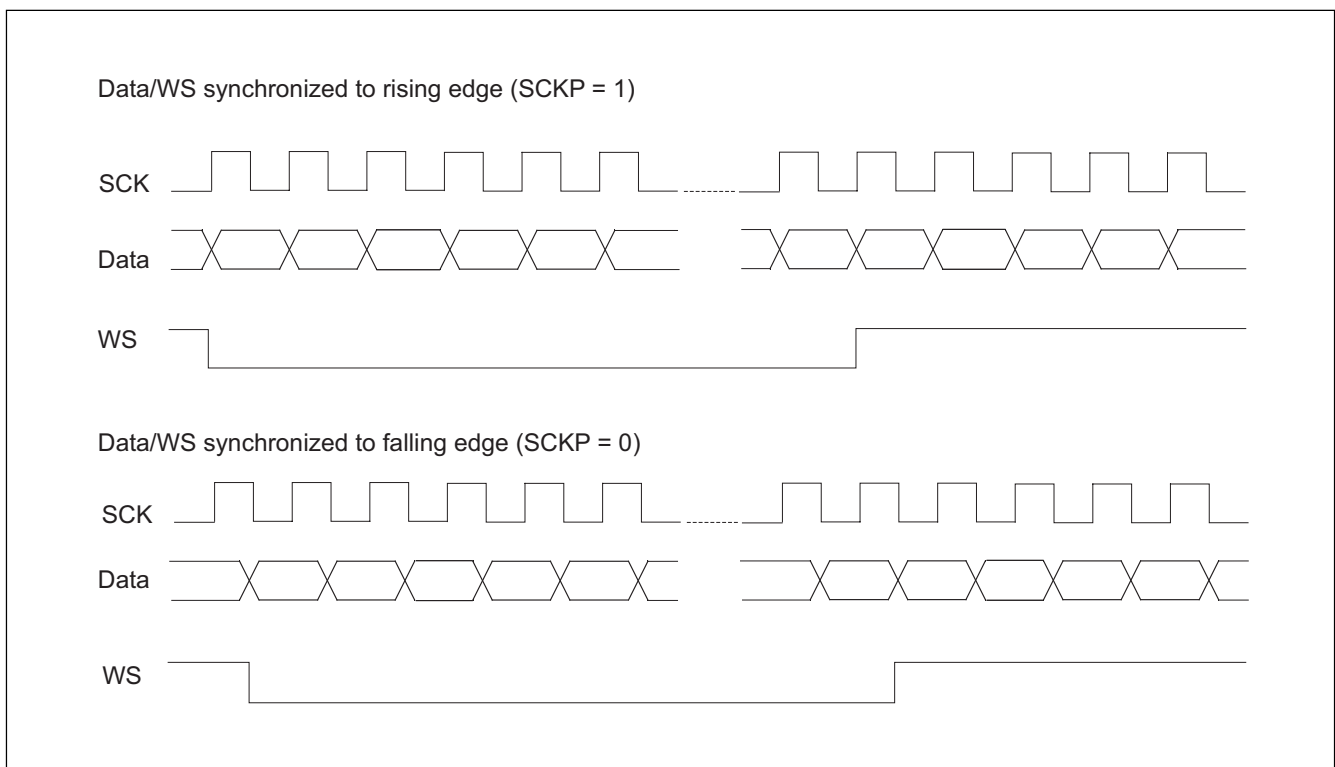

Figure 1.117. Transmit and receive data (and WS) synchronized to SCK
- Transmit/receive data and WS synchronized to the rising edge of SCK as shown in Figure 1.117.